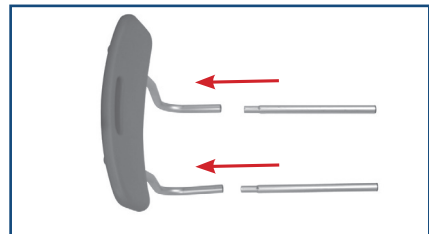

figure 5
7. To assemble backrest, insert support tube into backrest support by depressing push pin and sliding into backrest tube. Repeat for second support. (Figure 5)